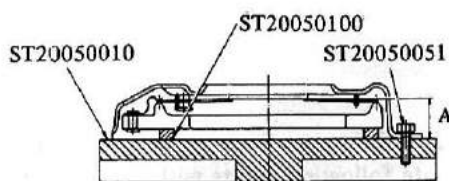

Fig. CL-4 Measuring height of diaphragm spring
(1) Place Distance Piece ST20050100 on Base Plate ST20050010 and then tighten clutch cover assembly on base plate with Set Bolts ST20050051. See Figure CL-4.